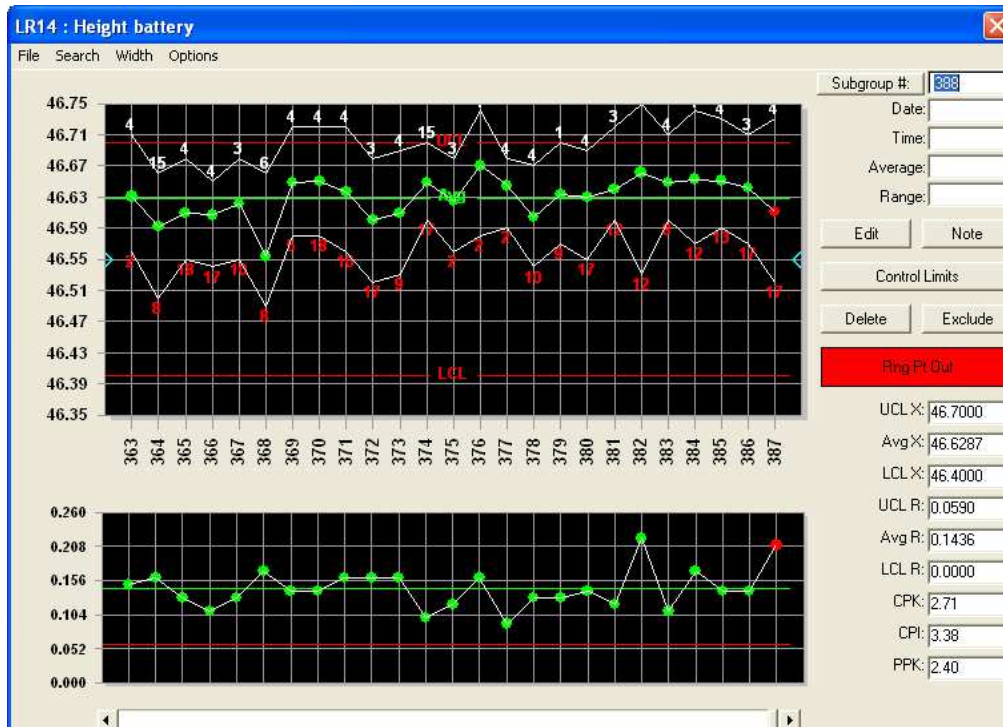

Figure 5: Highest and lowest parallel process indicated in the chart
- High Low readings visible in chart (See figure 5)